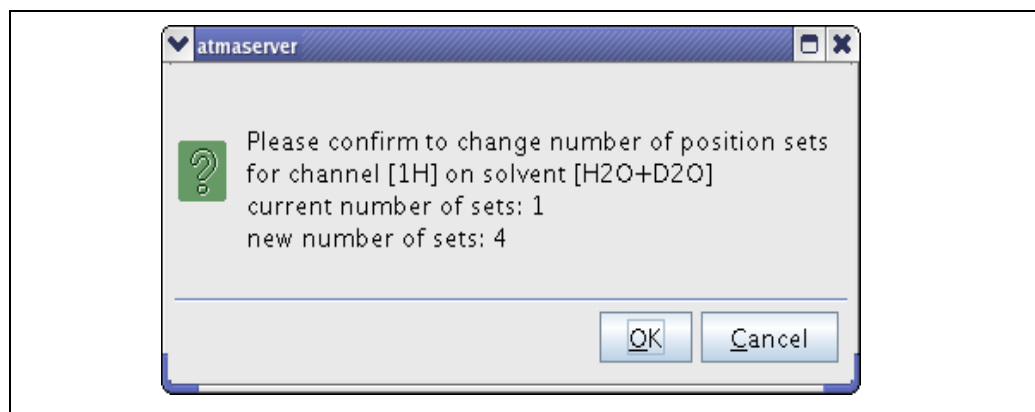

Figure 5.2: Changing Position Set
3. Confirm the setting on the dialogue shown in Figure 5.2.
2. Confirm the setting on the window shown in Figure 5.2.